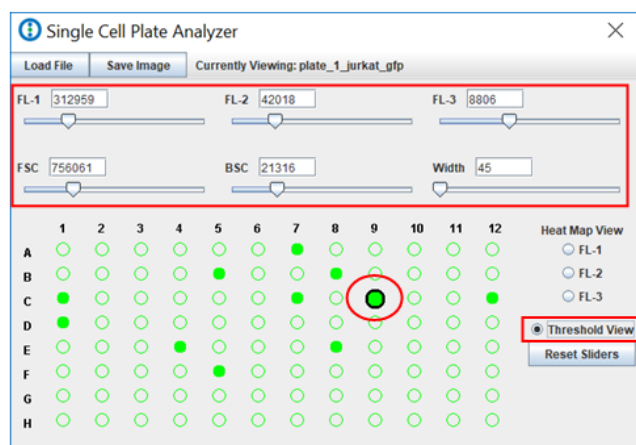

Figure 69. The Plate Analyzer Threshold View
2. Adjust thresholds individually moving the sliders or by manually inputting a number (Fig. 69).
3. Reset Values and select a well to see an event on the plots (Fig. 69).